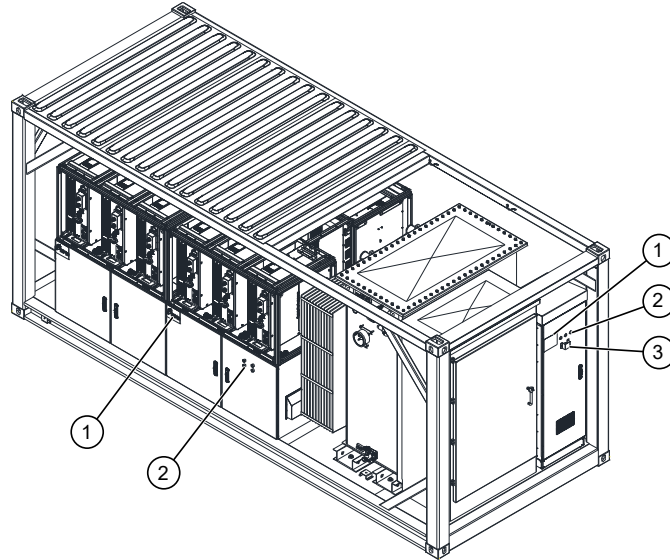

Fig. 2-2 Appearance Diagram of PCS skid
1. The appearance and main components of the PCS skid are shown in Fig. 2-2.